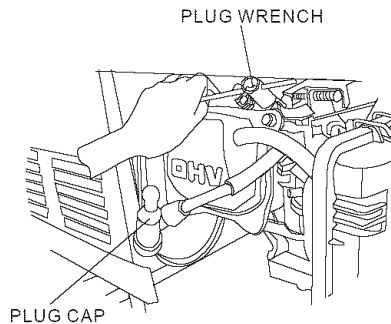

Figure 20- Removing the spark plug
2. Unscrew the spark plug from the generator using the spark plug wrench included with this product (see figure 20). Visually inspect the spark plug. If it is cracked or chipped, discard and replace with a new spark plug. We recommend using a F6RTC spark plug such as NGK BPR6ES.